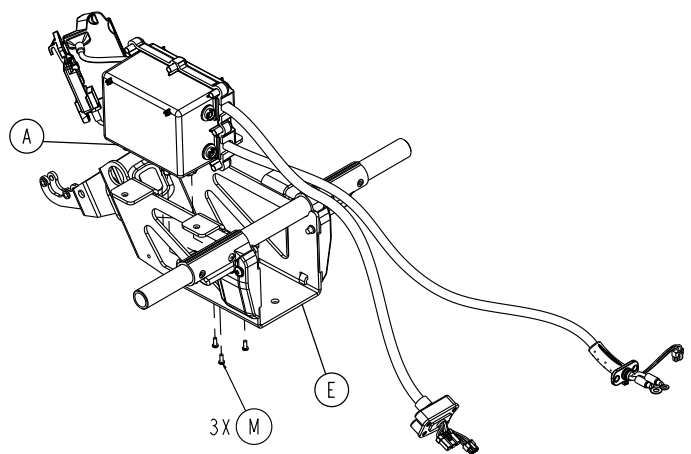

Figure 38 – Remove the HBC enclosure assembly screws
6. Using a T20 Torx driver, remove the three pan head tapping screws (M) that secure the HBC enclosure assembly (A) to the birdcage (E) (Figure 38). Save the screws.